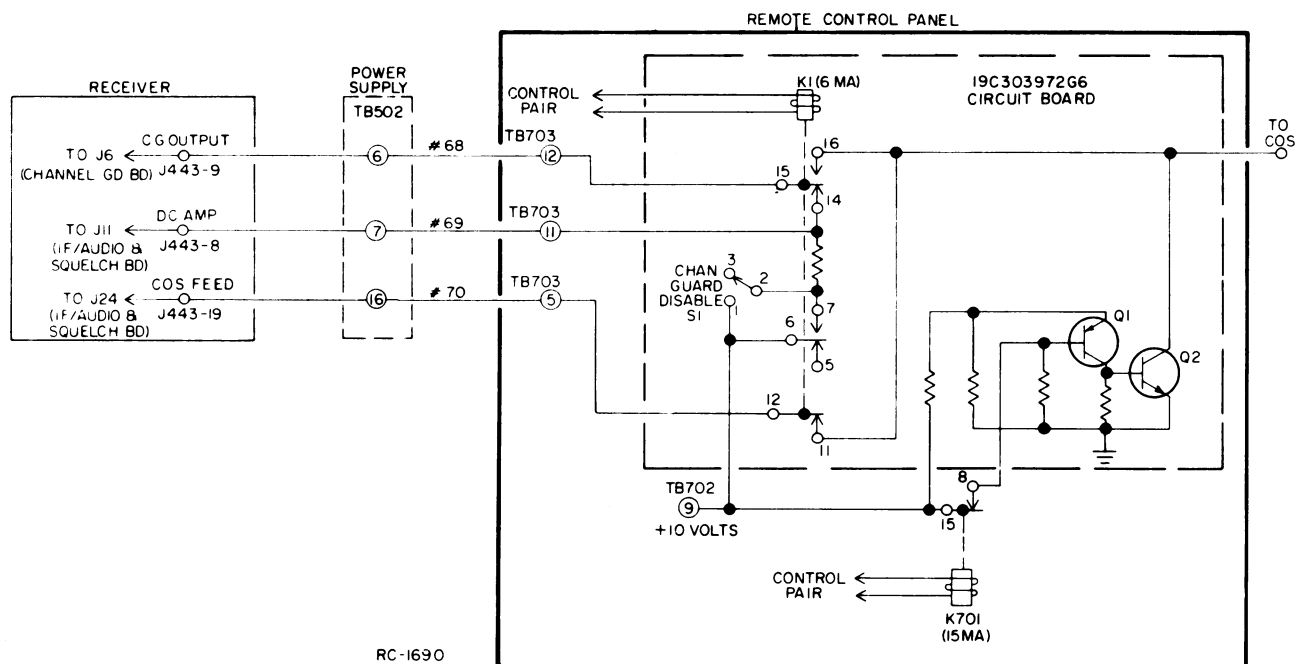

Figure 1 - Remote/Repeater Control with Channel Guard (Option 7659 with 2-Watt Receiver)
When stations contain 2-watt receivers, the 19C303972-G6 Circuit Board is modified as indicated on the Service Sheet for Option 7659. The output from the Channel Guard decoder connects through normally-closed (NC) contacts of K1 to the DC amplifier to provide Channel Guard operation (see Figure 1).